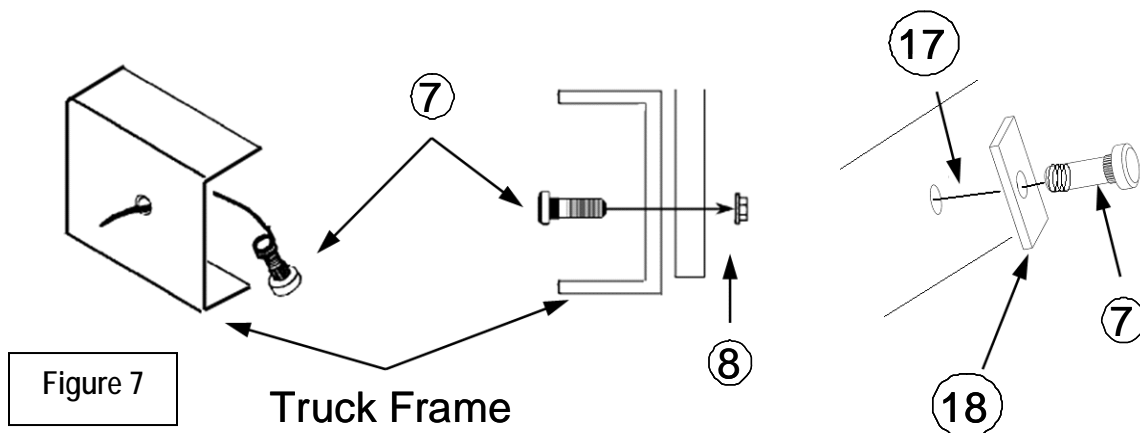

Figure 7
9. Place the wheel bolt into the frame first and then out through the frame brackets. See Figure 7. On applications with existing slots in frame, insert a 3/16" spacer on the pull wire before the bolt. Thread the pull wire coil over the end of the wheel bolt and pull through frame and frame bracket. See Figure 7. Secure each bracket to the truck frame. The knurled portion of the bolts will lock into the frame holes as the nuts are tightened. Use of an air wrench will make installation much better.